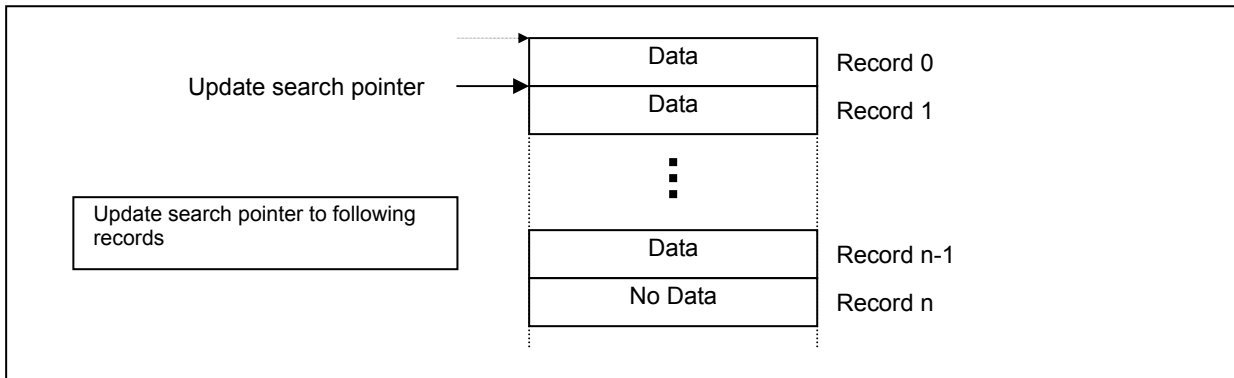

Figure 8. Update Search Pointer
- (2) Check whether the records which the search pointer indicates are empty records (ALL "FFh")
- (3) When the records are not empty records, set the search pointer to the starting address of the next record. (Figure 8)